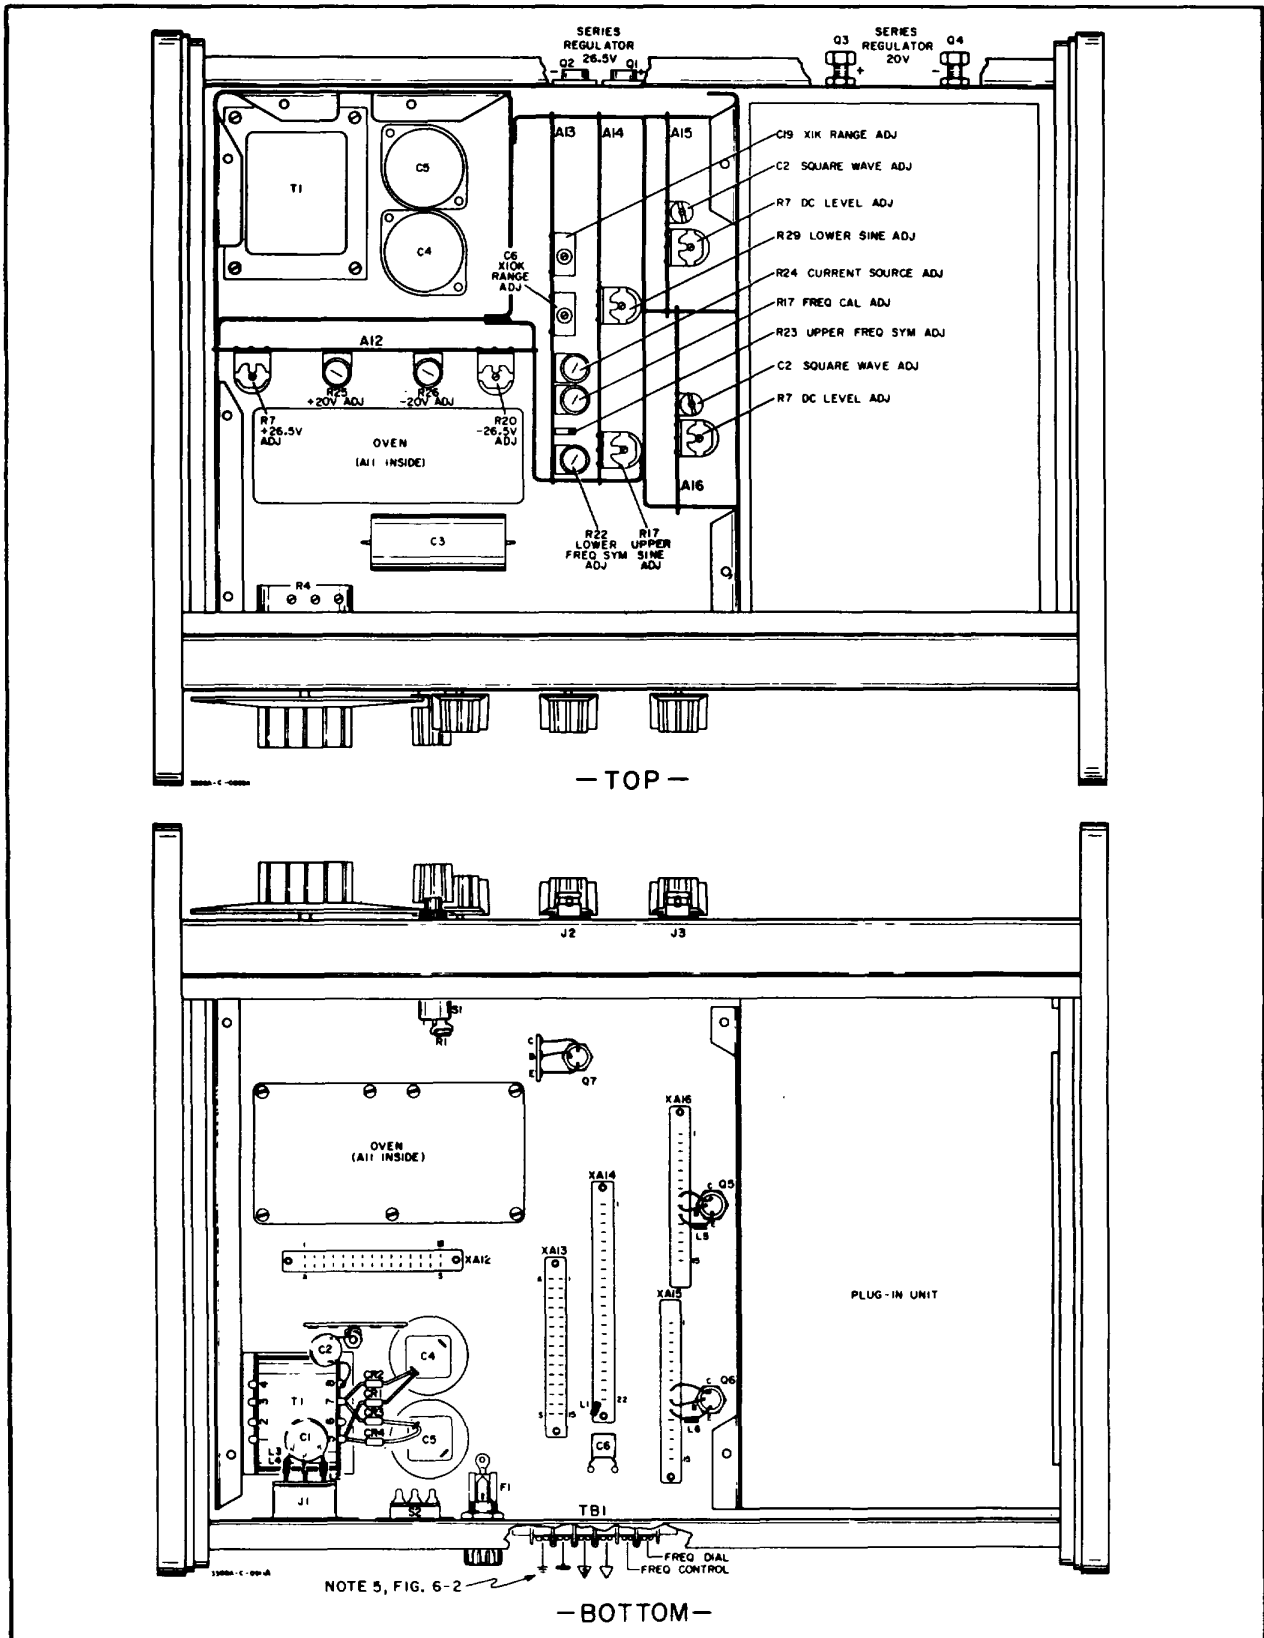

Figure 6-1. 3300A Top and Bottom Views.
- PARTIAL REFERENCE DESIGNATIONS ARE SHOWN. PREFIX WITH ASSEMBLY OR SUBASSEMBLY DESIGNATION(S) OR BOTH FOR COMPLETE DESIGNATION.
- ALL FOUR GROUNDS ARE CONNECTED ONLY THRU SHORTING BARS LOCATED ON TB1 (SEE FIGURE 6-1).